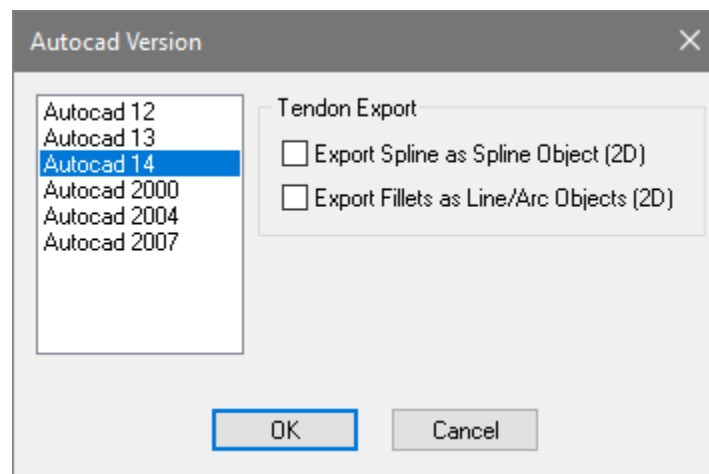

Figure 8-86
- Go to *File* → *Export* → *DWG*. This will open the AutoCAD Version window where the user can choose the drawing version as well as, whether they want the drawing to export tendons as Polylines or Splines as shown in **FIGURE 8-86**.